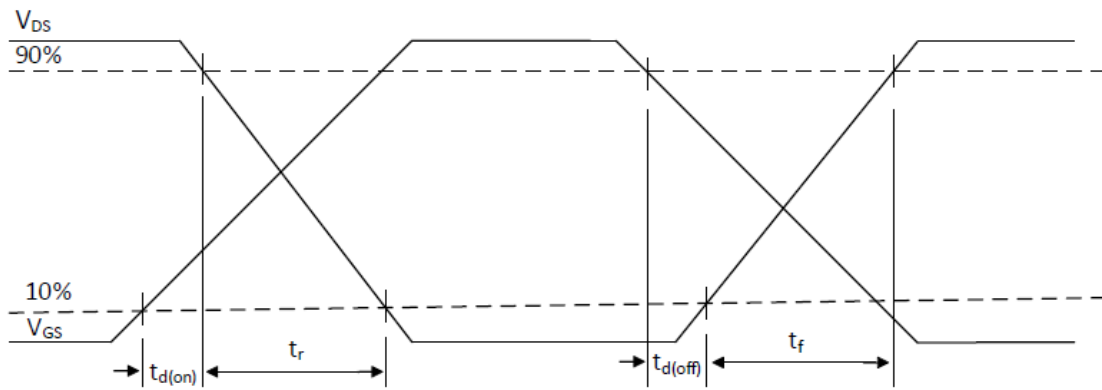

Figure 17: switching time waveforms
(7) See Figure 17 for switching loss test circuit